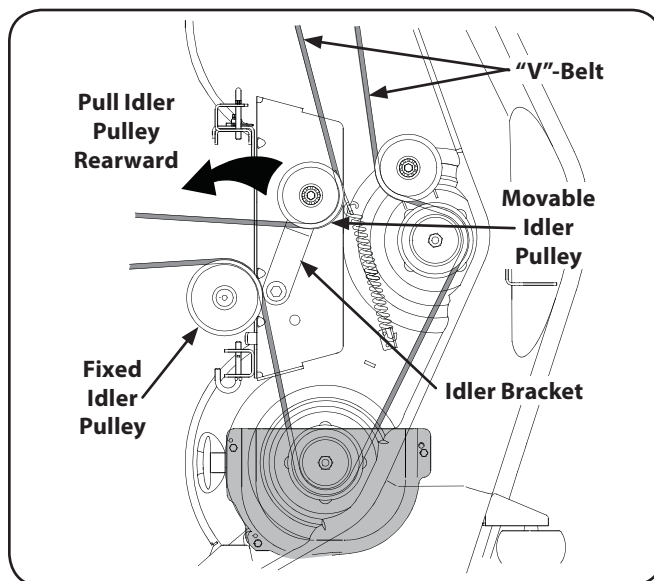

Figure 7-4 (42" deck shown)
2. Working from the middle of the tractor, pivot the idler bracket and movable idler pulley rearward away from the backside of the 'V' belt just far enough to lift the belt up and over the idler pulley. See Figure 7-4.
3. Route the backside of the belt around the fixed idler pulley of the deck. Refer to Figure 7-4.
4. Working from the middle of the tractor, pivot the idler bracket/movable pulley rearward against the spring tension and slide the backside of the belt onto the movable idler pulley. Refer to Figure 7-4.
2. Make certain the belt is in the spindle pulleys of the deck, and that the backside of the belt is against both the fixed and movable idler pulleys. Refer to Figure 7-4.